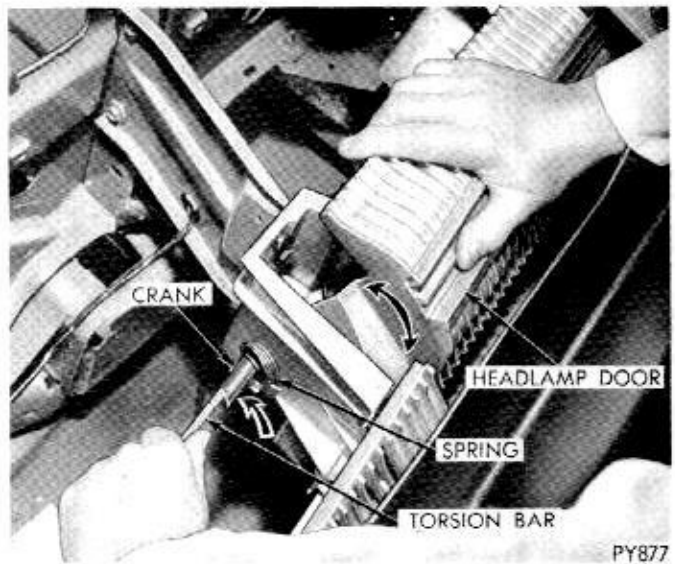

Fig. 3—Removing Torsion Bar from Headlamp Door Crank
while pulling the bar out from the slot with your other hand (Fig. 3).
- (5) Remove torsion bar from slotted areas in cranks as described in headlamp door removal (Fig. 3).
- (6) Remove motor (3 screws) from motor mounting bracket.
- (7) Remove torsion bar from motor.